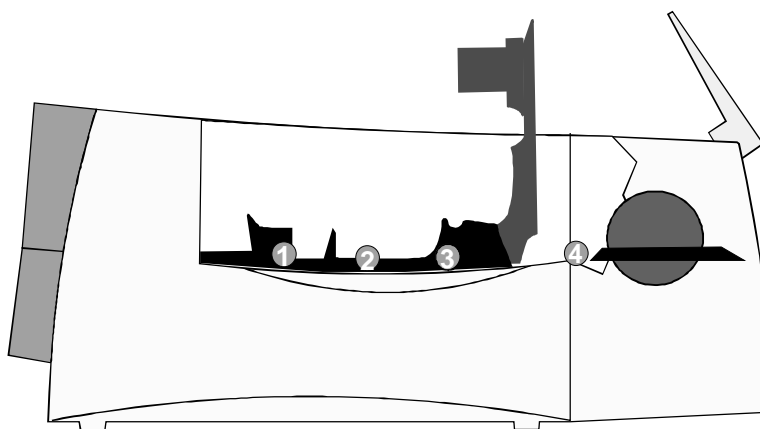

Figure 4-8: Clean rollers in the card track
- b Place the cleaning pen on top of the first transport roller (location 1 in Figure 4-8).
- g Move the cleaning pen to location 2 (in Figure 4-8). Repeat steps c through f.
- h If the printer has a magnetic stripe module, move the cleaning pen to location 3 (in Figure 4-8). Repeat steps c through f.
- b Insert the cleaning pen through the module door and hold the end of the cleaning pen against the top of the lower exit roller (location 4 in Figure 4-8).